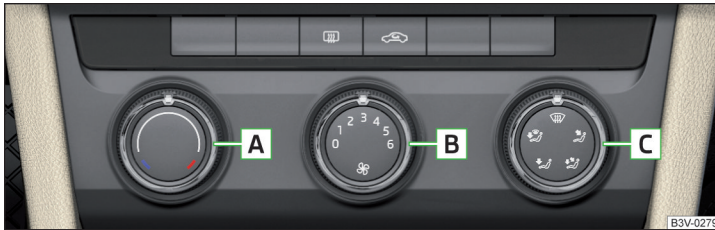
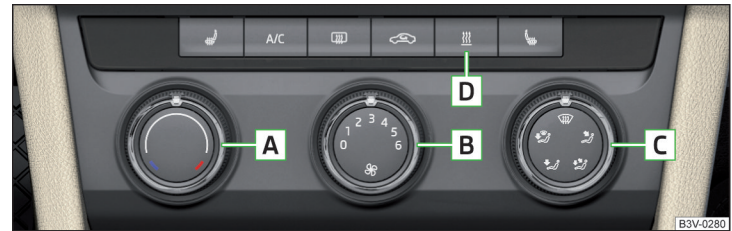

Fig. 153 Heating Controls
Fig. 154 Controls of the manual air conditioning
**Functions of the individual controls** » Fig. 153 and » Fig. 154
The warning light below the button **A/C** » Fig. 154 illuminates after activation, even if not all of the conditions for the function of the cooling system have been met. The lighting up of the indicator light in the button signals the operational readiness of the cooling system.